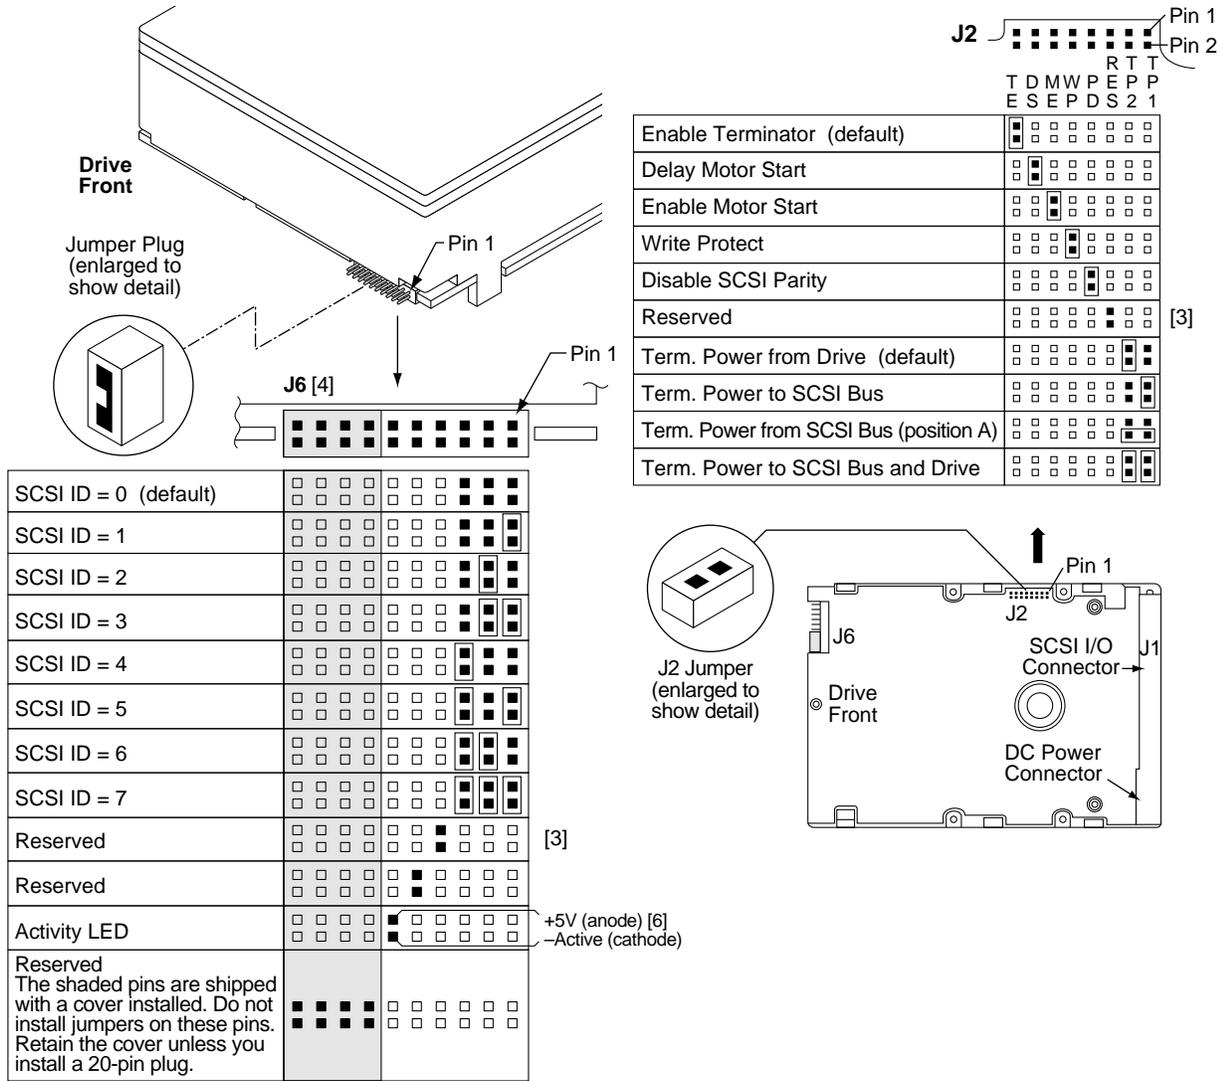

Figure 9. ST19171N option select jumper connectors
For option jumper locations and definitions refer to Figures 9, 10, and 11. Drive default mode parameters are not normally needed for installation. Refer to Section 9.3.2 for default mode parameters if they are needed.
Figures 9, 10, and 11 show views of the drive ID select and option select jumper connectors. Figure 10 shows a rear view of model drives for the purpose of showing J1-auxiliary of the drive. Both J1-auxiliary and J6 have pins for selecting drive ID and for connecting the remote LED cable. Only one or the other should be used, although using both at the same time would not damage the drive. The notes following the figures describe the functions of the various jumper positions on the connectors J2, J1-Auxiliary and J6. Suggested part number for the jumpers used on J2 is Molex 52747-0211 (Seagate P/N 70935865). A bag with the two jumper plug types is shipped with the standard OEM drives.
8.1.1 Notes for Figures 9, 10, and 11